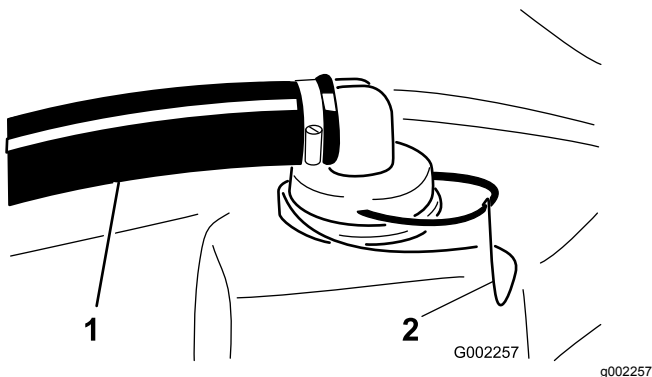

Figure 31
- At the top of the sprayer tank, remove the retainer that secures the hose fitting to attached to the large hose and the strainer housing (Figure 31).
- Remove the hose and hose fitting from the strainer housing (Figure 31).